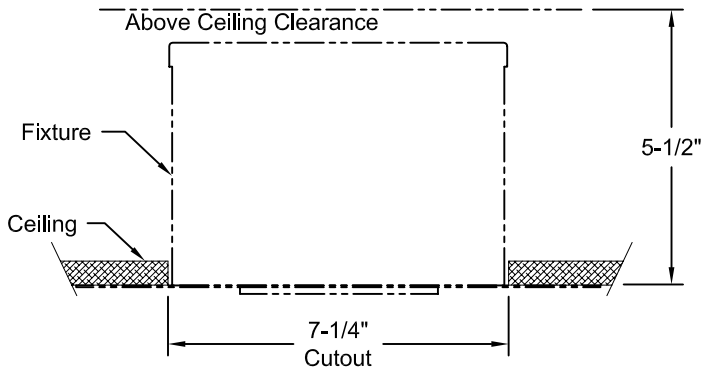
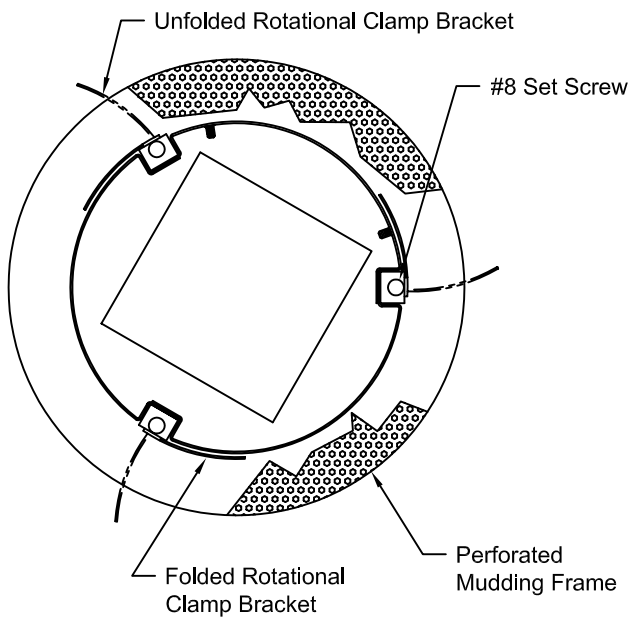
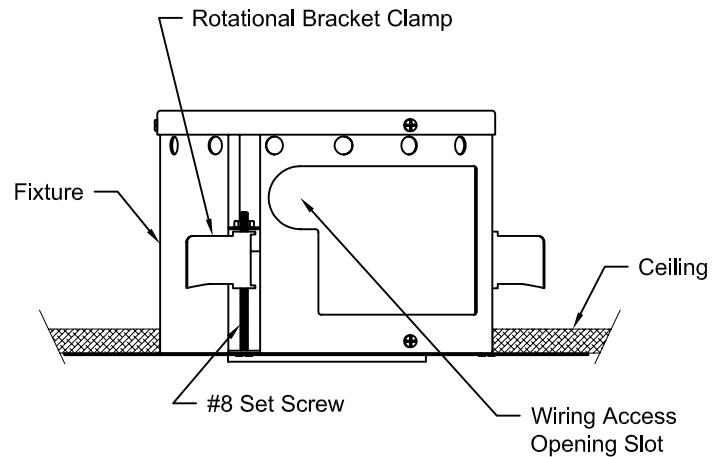
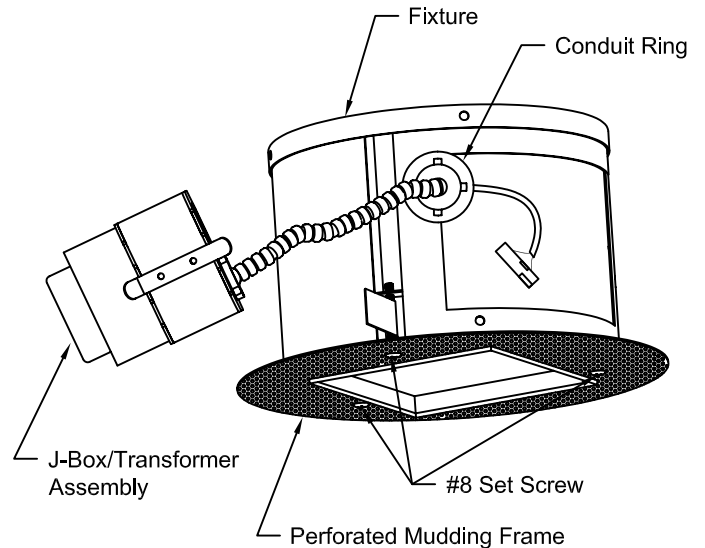

Figure 1
Figure 4
Figure 5
Figure 6
1. Check for Above Ceiling Clearance of 5-1/2". See Fig. 1.
2. Make 7-1/4" diameter Cutout in Ceiling. See Fig. 1.
2. Fold three (3) Rotational Clamp Brackets tight against Fixture (See Fig. 4) making sure Brackets are in upper most (highest) threaded position (See Fig. 5) to accommodate largest ceiling thickness.
3. Insert Fixture into Ceiling Cutout (See Fig. 1), rotating to orient Square Aperture to desired position relative to adjacent wall(s), other fixtures, aperture alignments, etc.
4. OPTIONAL: Retain orientation by installing two (2) or three (3) drywall/zip screws into outer perimeter of Perforated Mudding Frame.
5. Holding Fixture firm to ceiling surface, drive clockwise the three (3) #8 x 3" Set Screws (See Fig. 5) located on the underside of Perforated Mudding Frame (See Fig. 6) to rotate and lock the Rotational Clamp Brackets to the ceiling. DO NOT overtighten the Screws or Rotational Clamp Brackets. (Overtightening may crack ceiling material.)
6. Reach inside and through Fixture Wiring Access Opening and locate Lamp Socket, Flex Cable, J-Box/Transformer Assembly. See Fig. 6.
7. Pull Lamp Socket and Lamp Wiring into inside of Fixture. See Fig. 6.
8. Slide Conduit Ring (See Fig. 6) into Slot (See Fig. 5) in Wiring Access Opening.